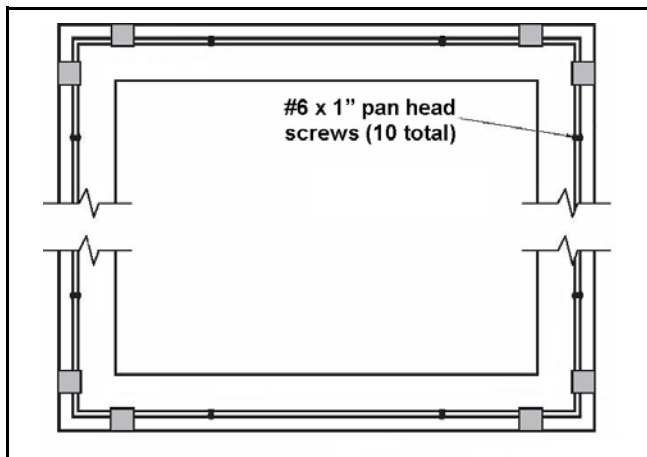

Figure 18
12. Use the door frame holes as a guide to lightly punch pilot holes for the #6 x 1" pan head screws (Figure 18).